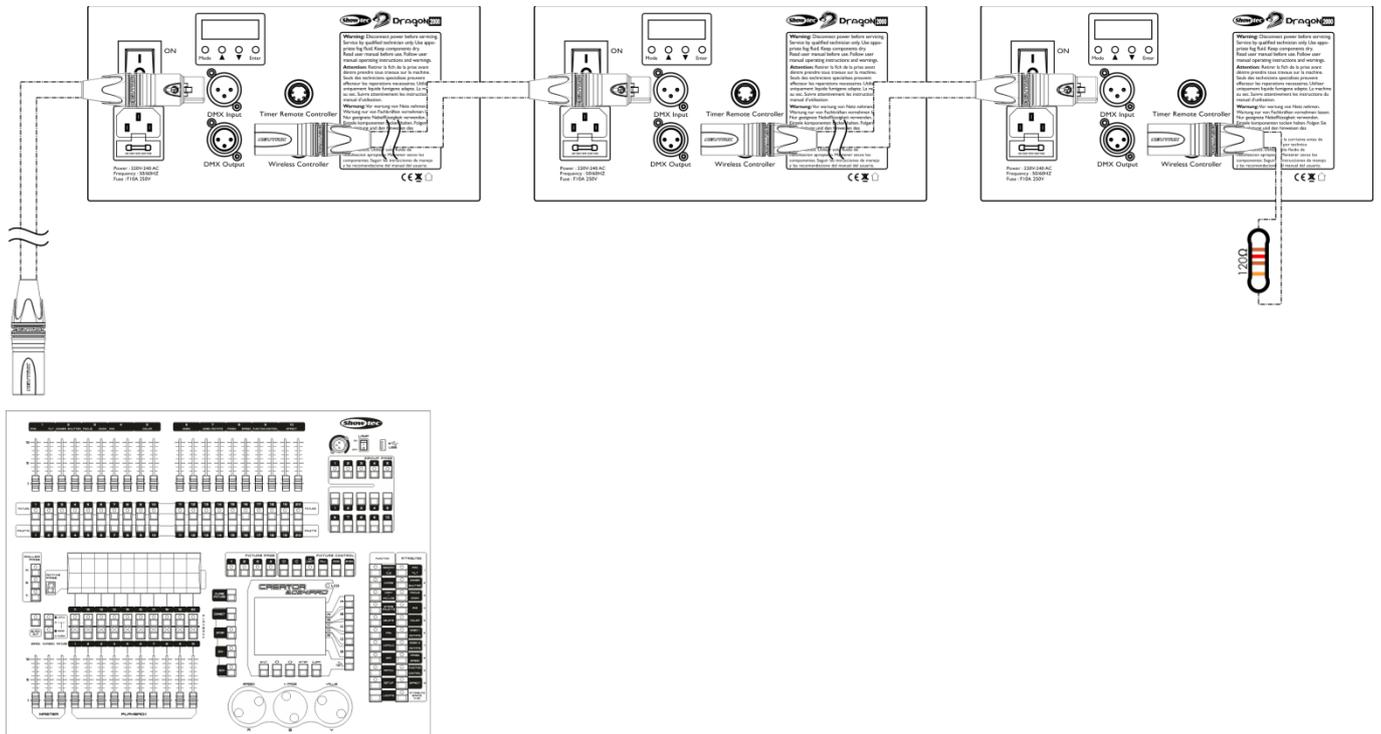

Fig. 03
- 04) Link the units as shown in Fig. 03, Connect a DMX signal cable from the first unit's DMX "out" socket to the second unit's "in" socket. Repeat this process to link the second, third, and fourth units.